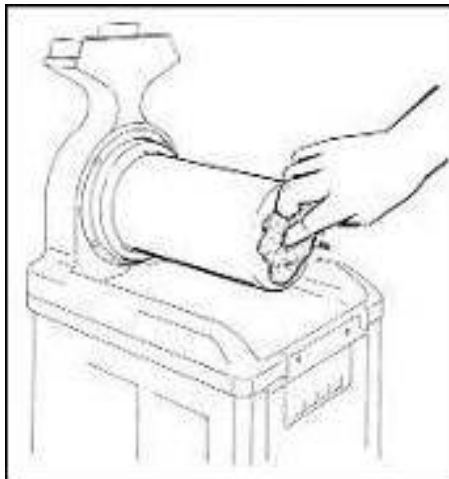

Fig. 40
- Thoroughly wash the evaporator and the drip tray surfaces with a sponge soaked with the sanitizer (see Fig. 40).